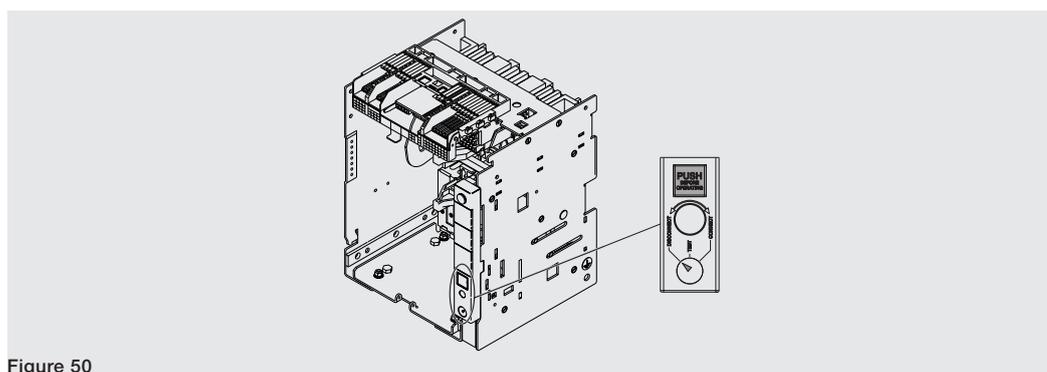

Figure 50
2. Make sure that signalling device on the fixed part indicates the **DISCONNECT** position. See Figure 50.